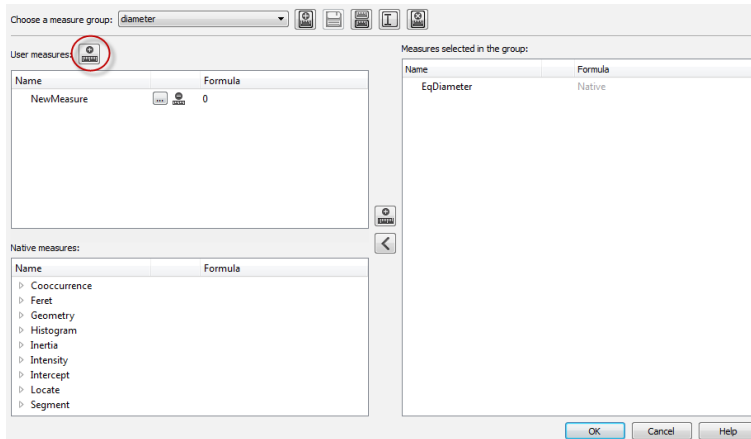

Figure 6.54: Custom measures definition button
- Create a custom measure by pressing the dedicated button (see Figure 6.54).